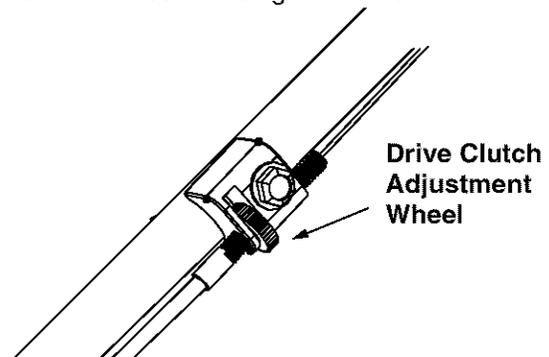

Figure 18
- To adjust, rotate the adjustment wheel with your fingers. See Figure 18 for location of the wheel. Turn the wheel to the left to tighten the drive cable. Turn the wheel to the right to loosen the drive cable.